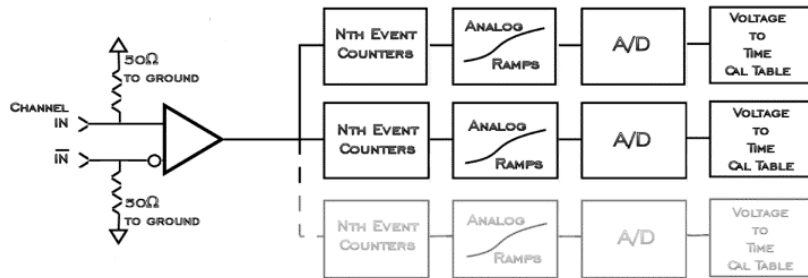

Figure 2. Simplified Block Diagram
The SIA measures the time between events. The events to be measured are determined by the Nth Event counters. The precise time between events is determined by the analog interpolators (ramps). See Figure 2.
Figure 2 shows only one channel. All other measurement channels function similarly. The inputs are each 50ohms to ground. Impedance matching modules are available for LVDS/CML to provide 100ohms between the differential inputs. The input signal can be single-ended or differential. If the signal is single-ended, the non-inverting input is used.
Other tools in the V/S/ software make use of the Nth event counters from Figure 2. By skipping a number of edges, the Nth event counters give the SIA-3000 the ability to derive information about the long-term timing characteristics of the signal. The spectral content of the jitter can also be determined. This is periodic jitter (PJ)